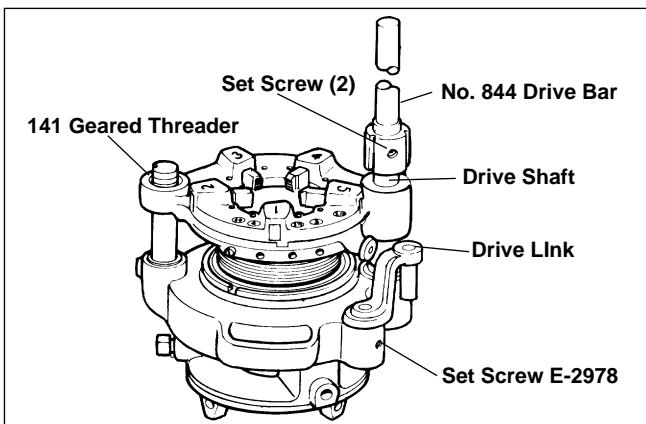

Figure 16 – No. 844 Drive Bar and Drive Link Installed
5. Install No. 844 Drive Bar (*Figure 16*) onto 141 Geared Threader Drive Shaft and tighten two (2) set screws using $\frac{5}{16}$ " socket head wrench.